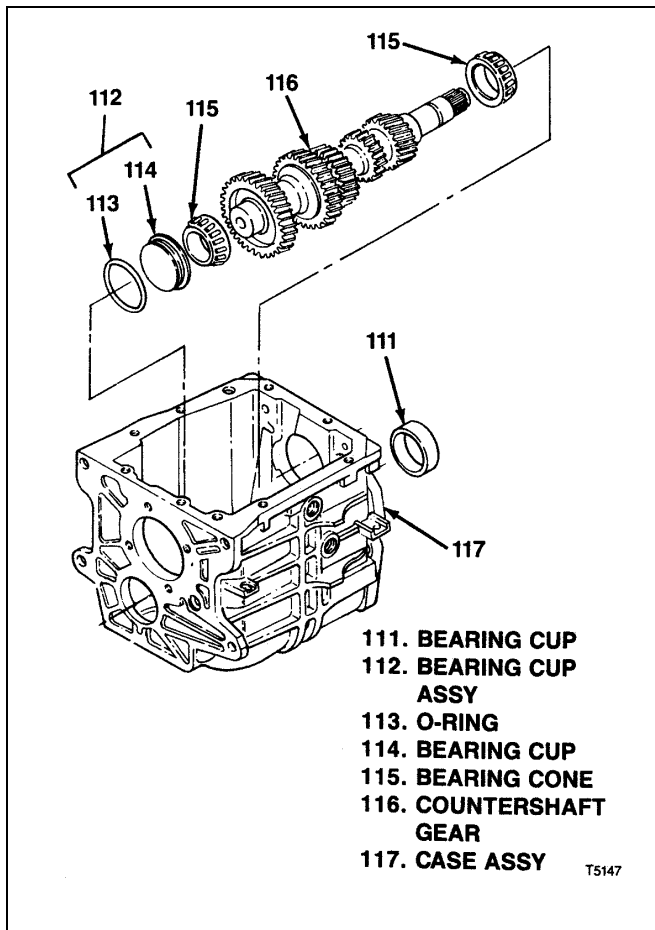

Figure 3-13. T5 WC Countershaft Gear
3-19. REMOVAL OF T5 WC COUNTERSHAFT GEAR (see figure 3-13):
- Push countershaft gear (116) rearward to force bearing cup (11) out of transmission case (117).
- Tilt from end of countershaft gear (116) up and remove from top of transmission case (117).
- Push bearing cup assembly (112) out of transmission case (117) and remove o-ring (113) from bearing cup (114).
- Use suitable puller to remove bearing cones (115) from countershaft gear (116) if necessary.
3-20. DISASSEMBLY OF T5 WC 5TH SYNCHRONIZER ASSEMBLY. Mark synchronizer sleeve (47) and hub (49) so that clutch teeth and faces can be assembled exactly as they were originally. Sleeve and hub are a matched set, selected at manufacture. Disassemble as follows (see figure 3-13):
- Unhook and remove springs (46).
- Slide sleeve (47) from hub (49), freeing inserts (48).